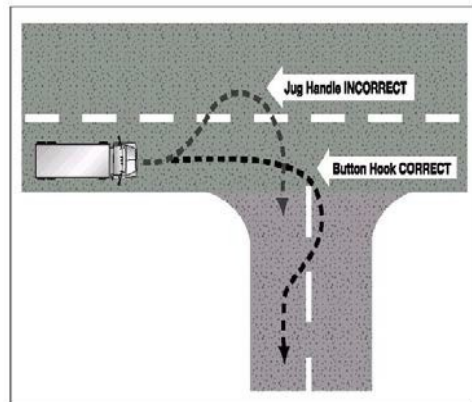

Figure 2.13
- ❑ If you must cross into the oncoming lane to make a turn, watch out for vehicles coming toward you. Give them room to go by or to stop. However, don't back up for them, because you might hit someone behind you. See Figure 2.13.